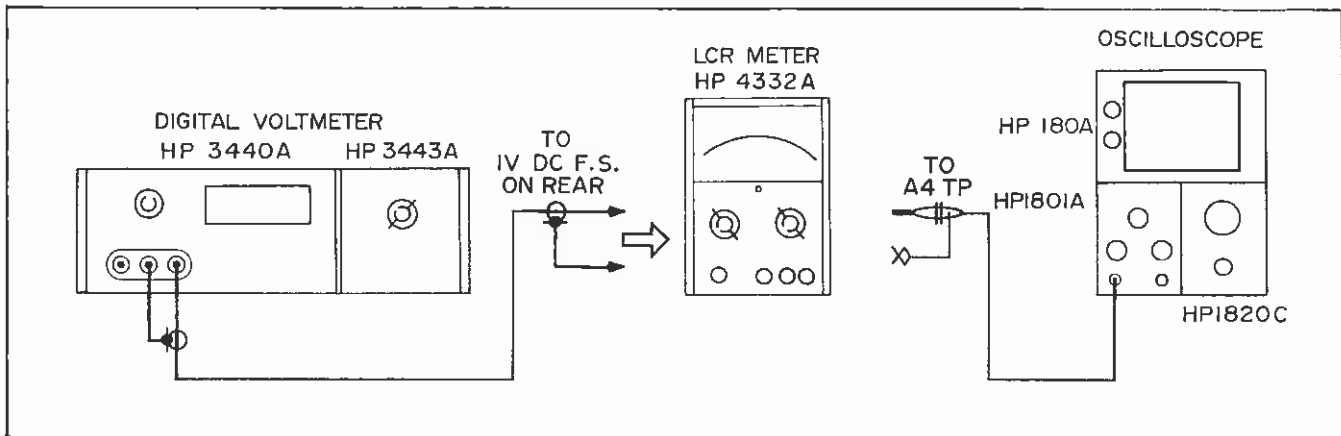

Figure 5-3. Meter Zero Adjustment
- a. Connect equipment as shown in Figure 5-3.